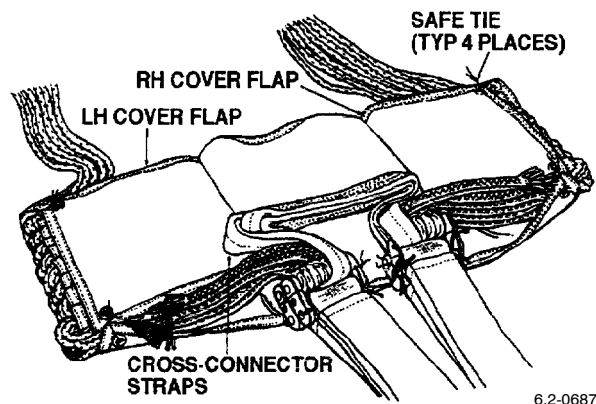

Figure 37. Suspension Line Stowage Cover Flaps Secured
j. Using size A thread single and waxed, tie tacking thru each corner of the suspension line stowage tray and cover flap eyelets; tie off (Figure 37). (QA)
k. Reposition the cross-connector straps on the stowage tray (Figure 37).